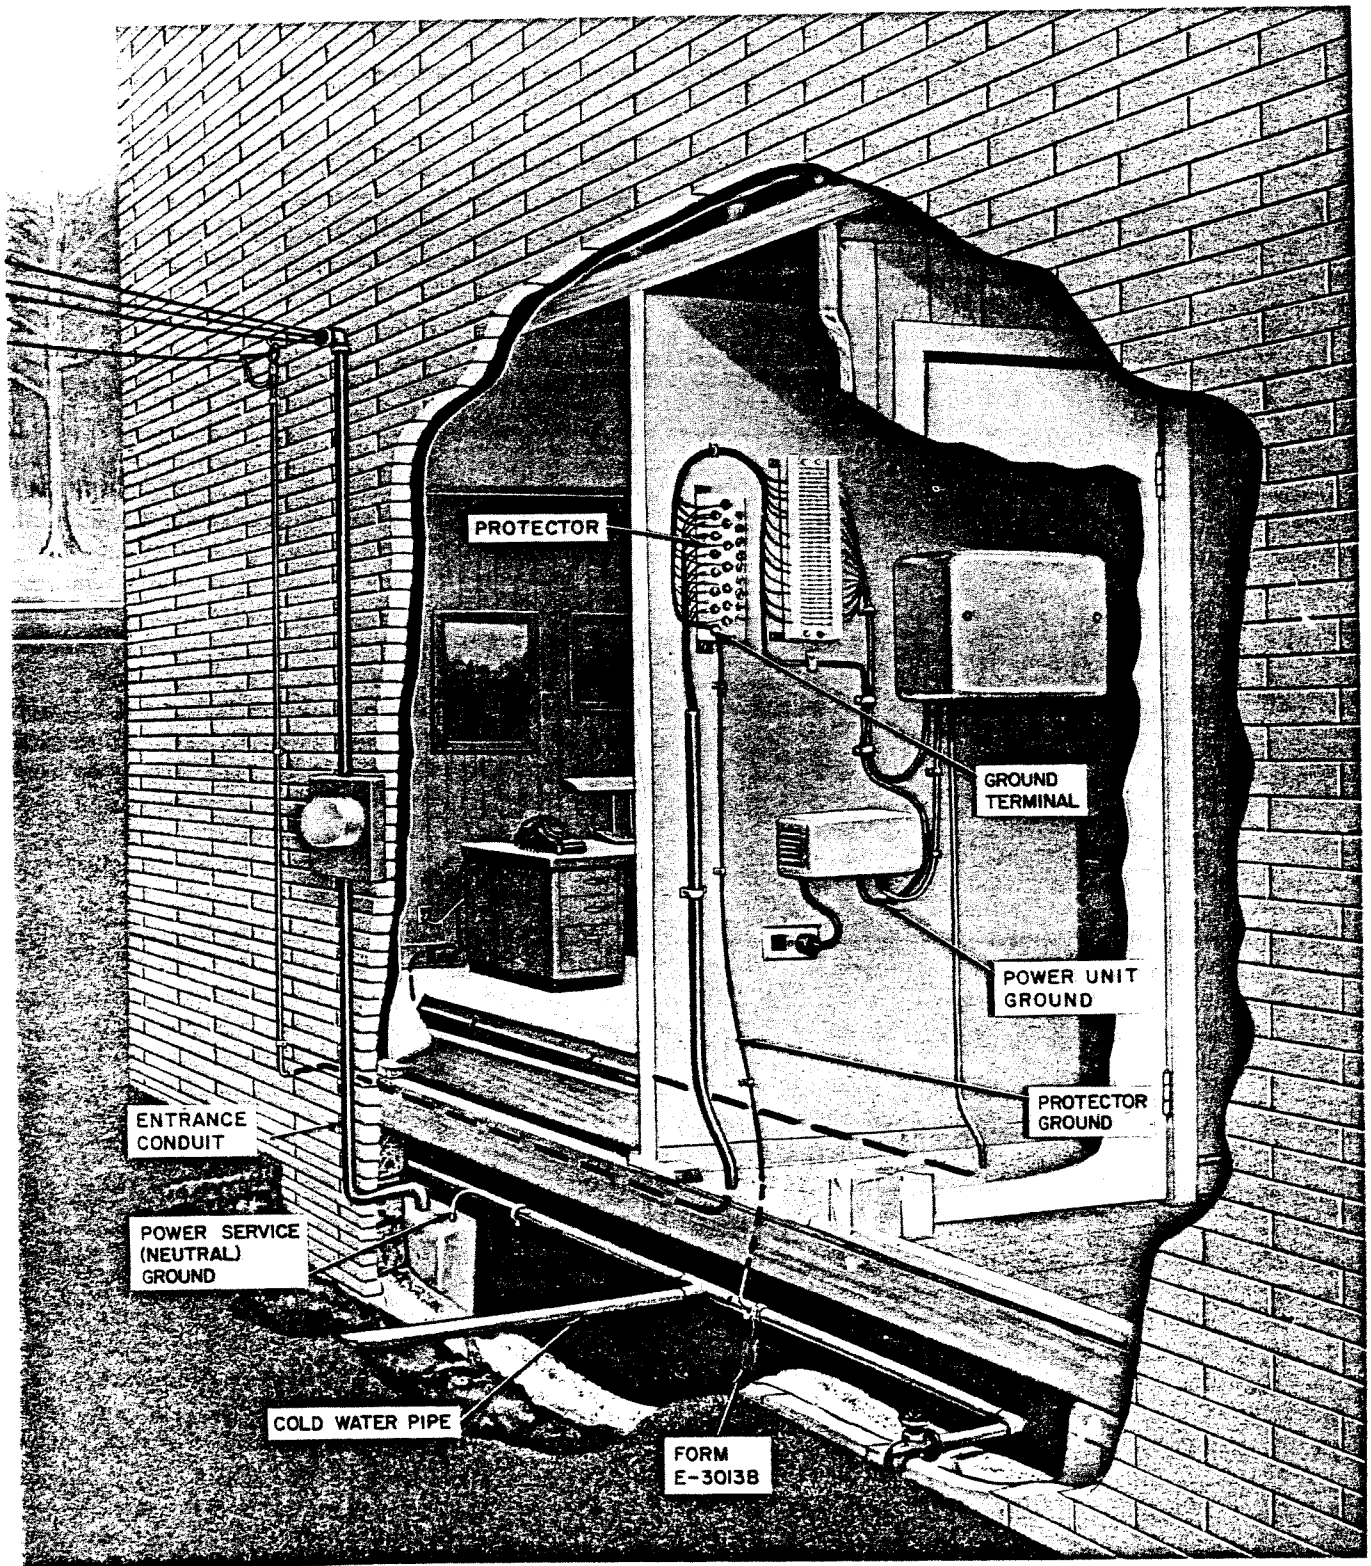

Fig. 1—Properly Grounded 1A2 Key Telephone System
2.02 The KTS installations usually require station protection in lightning areas regardless of power exposure of the telephone plant. This condition is discussed in more detail in Part 3 of this practice. Briefly, however, the key station must be protected from the voltages that can be developed between any two ground points. These ground points include the KTS power supply ground, the commercial power ground, the station protection ground, and the CO or PBX ground. **It is strongly recommended that protection of KTS lines always be considered in areas where thunderstorm activity can occur.** The lack of such protection can result in damage to and failure of circuit pack and power supply components. A typical installation protected and grounded according to the requirements presented here is illustrated in Fig. 1.